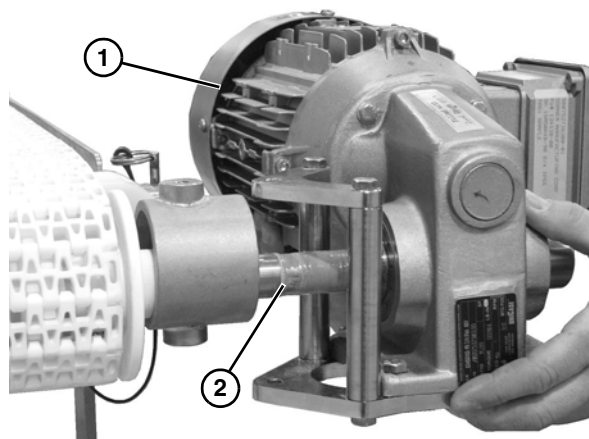

Figure 69
4. Slide the gearmotor (Figure 69, item 1) off of the drive spindle (Figure 69, item 2).